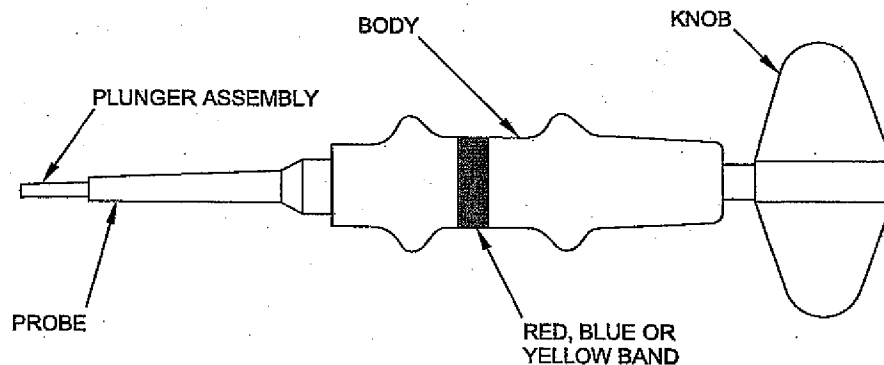

Fig 1 Unwired contact removal tool
3.1 The tool (Fig 1) consists of a body/plunger assembly and three removable plastic probes.